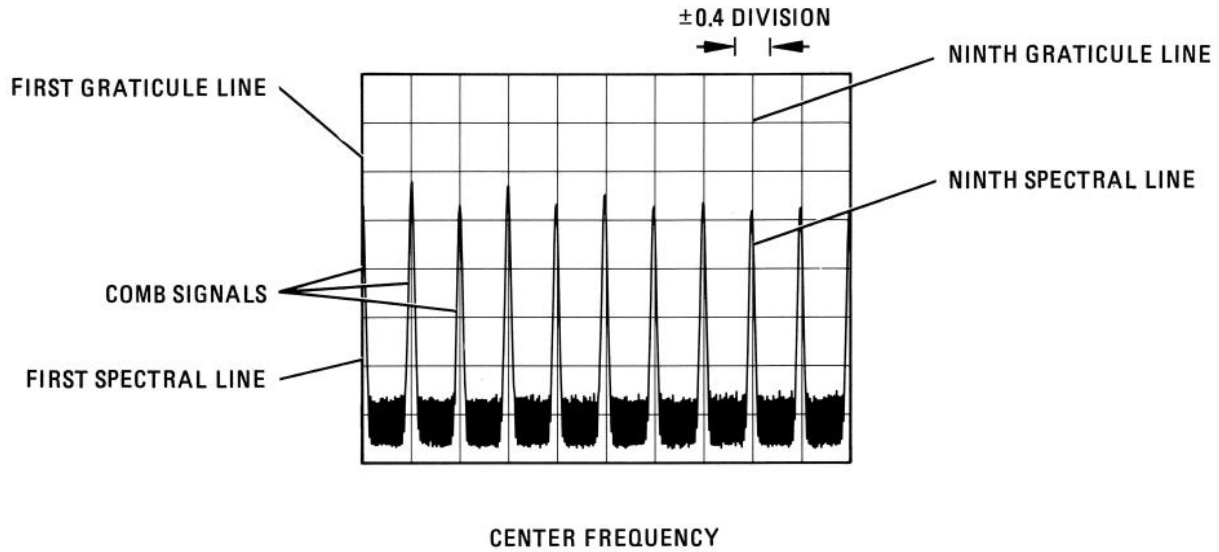

FIGURE 4-2. FREQUENCY SPAN ACCURACY MEASUREMENT FOR NINTH SPECTRAL LINE
3. Adjust spectrum analyzer TUNING control to position one spectral line (from comb generator) at first graticule line (left-hand edge of display). Measure error between ninth spectral line and ninth graticule line as shown in Figure 4-2. Error should be no greater than ± 0.4 division.